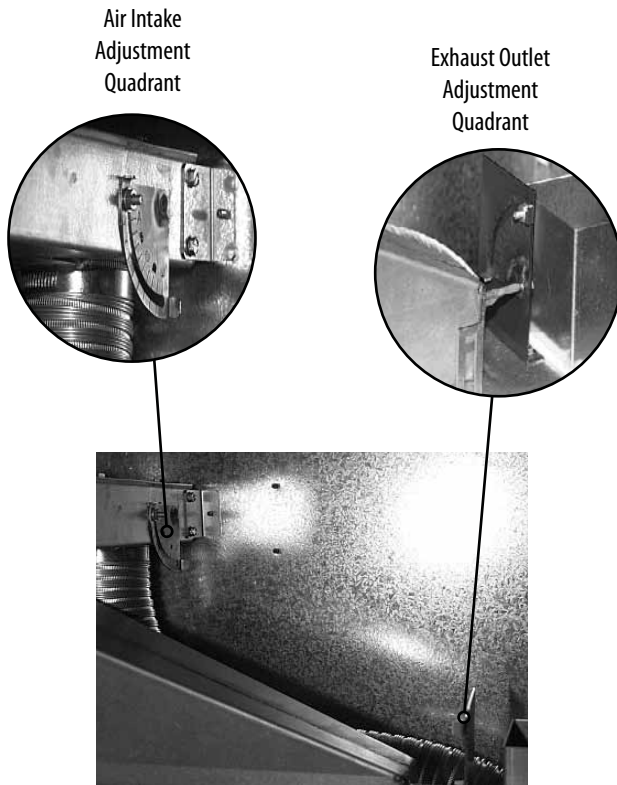

Figure 26 - Restrictor Adjustment Quadrants
Because the Quadrants are accessible only through the right hand opening in the cabinet face (shown in *Figure 26*), the wall must remain open until the Fireplace has been tested and is operating properly.
- Measure the total amount of vertical rise and the total amount of horizontal run in your configuration. (The example in *Figure 26* has 8 feet of rise and 9 feet ($3' + 6' = 9'$) of run.)